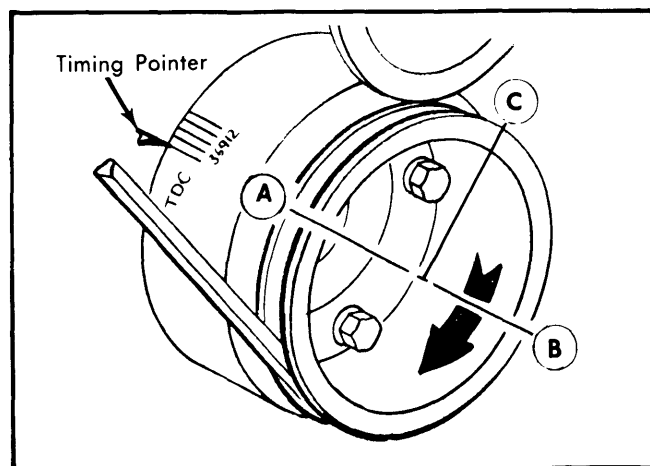

Fig. 9 Crankshaft Positions for Adjusting Hydraulic Valve Lifters
302" Engine - 1) With No. 1 piston on TDC at end of compression stroke (position A in Fig. 9), check valve clearance on the following valves: No. 1 intake, No. 1 exhaust, No. 7 intake, No. 5 exhaust, No. 8 intake, No. 4 exhaust.
2) Rotate crankshaft to position B (see Fig. 9) by rotating crankshaft 180° clockwise from TDC position. Check clearance on the following valves: No. 5 intake, No. 2 exhaust, No. 4 intake, No. 6 exhaust.
3) Rotate crankshaft to position C (see Fig. 9) by rotating crankshaft 270° clockwise from position B. Check clearance on the following valves: No. 2 intake, No. 7 exhaust, No. 3 intake, No. 3 exhaust.
351" W Engine – 1) With No. 1 piston on TDC at end of compression stroke (position A Fig. 9). Check valve clearance on the following valves: No. 1 intake, No. 1 exhaust, No. 4 intake, No. 3 exhaust, No. 8 intake, No. 7 exhaust.
2) Rotate crankshaft to position B (see Fig. 9) by rotating crankshaft 180° clockwise from the TDC position. Check clearance on the following valves: No. 3 intake, No. 2 exhaust, No. 7 intake, No. 6 exhaust.
3) Rotate crankshaft to position C (see Fig. 9) by rotating crankshaft 270° clockwise from position B. Check clearance on the following valves: No. 2 intake, No. 4 exhaust, No. 5 intake, No. 5 exhaust, No. 6 intake, No. 8 exhaust.